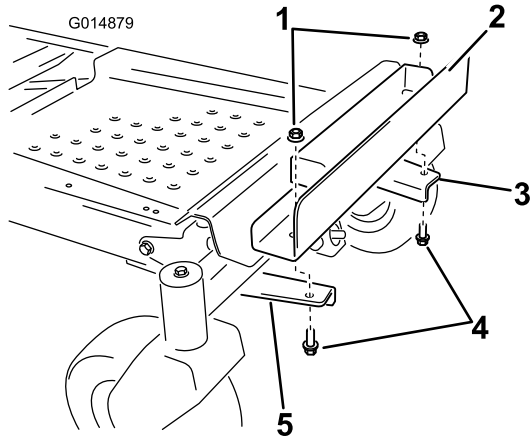

Figure 8
6. Align the outboard holes in the weight bracket with the mounting brackets installed previously (Figure 8).